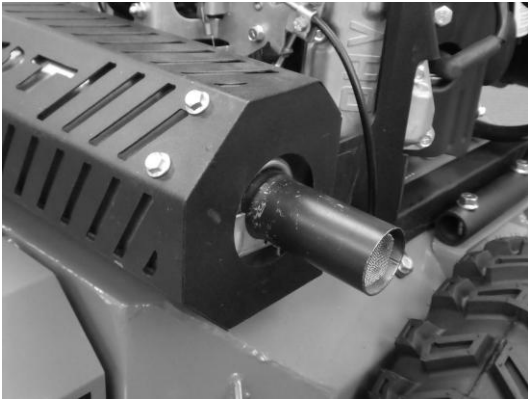

Figure 6
5. Reposition the Muffler Guard over the Spark Arrestor first and then down over the opposite end (**Figure 6**). **Note:** You may need to pull the end of the Guard out as you position the Guard on the opposite side to clear the Muffler.